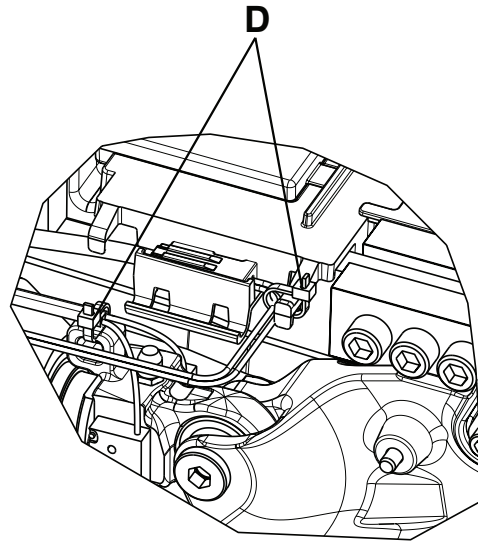

Figure 24 – Cable ties location
5. Using diagonal pliers, cut the cable ties (D) that secure the hydraulic cylinder rod end assembly cable to the plastic cover (Figure 24).